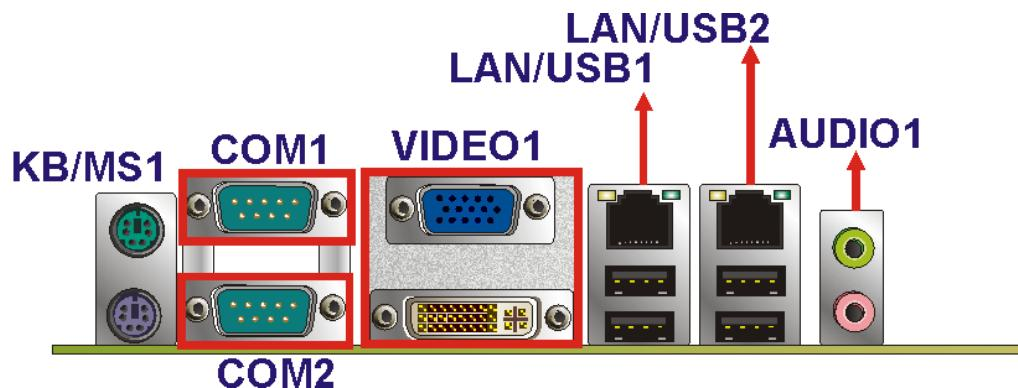

Figure 4-16: KINO-690S1 External Peripheral Interface Connector
Figure 4-16 shows the KINO-690S1 external peripheral interface connector (EPIC) panel.
CN Location: See Figure 4-16
A 24-pin Digital Visual Interface (DVI) connector and a female DB-15 VGA connector are integrated into a single EPIC connector as shown in **Figure 4-16**.
- CN Location:** See Figure 4-16 (see 2)